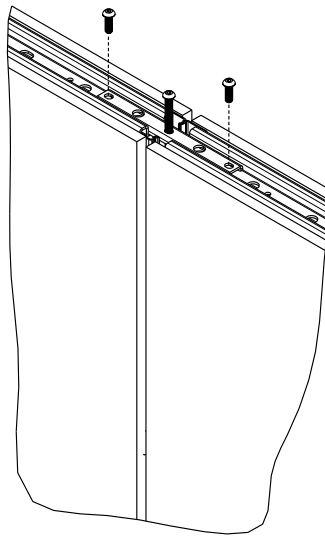

Fig. 5
5. Insert 3/4" screws. Do **not** tighten (Fig. 5)